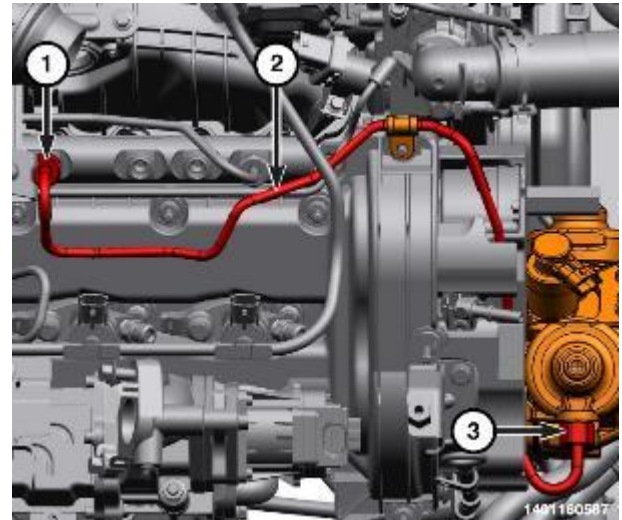

Figure 166 – Union Nuts
32. Unscrew the union nuts (1, 3) and remove and discard the fuel tube (2) (Figure 166).
49. Install a **NEW** fuel tube (2) and hand tighten the union nuts (1, 3). Tighten the union nuts (1,3) to 11 N·m + 75° (8 Ft. Lbs. + 75°) (Figure 166).